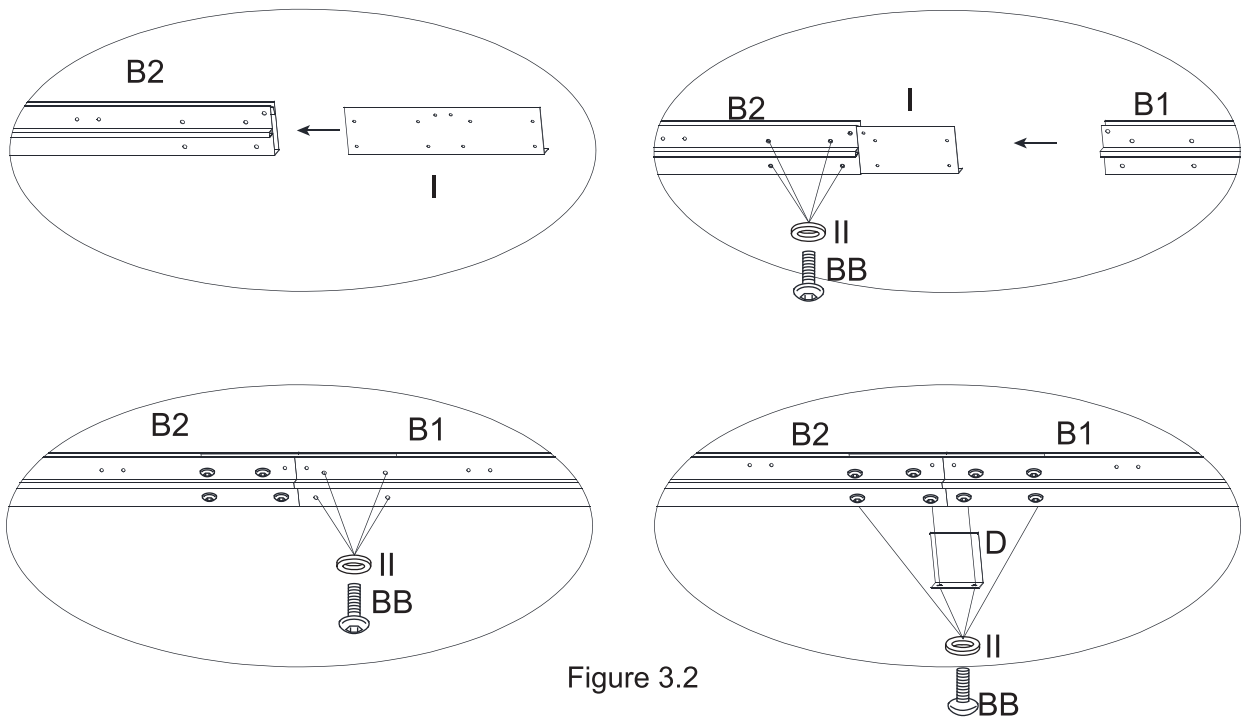

Figure 3.2
3.2. Connect the Long Left Lintel (B1) with the Long Right Lintel (B2) through the Lintel Connector -Large (I) by bolt (BB) and washer (II), then put the Lintel Cover - Center (D) onto the joint of the two lintels with bolt (BB) and washer (II), pay attention to install the screws based on the orders shown in the illustration. See Figure 3.2.